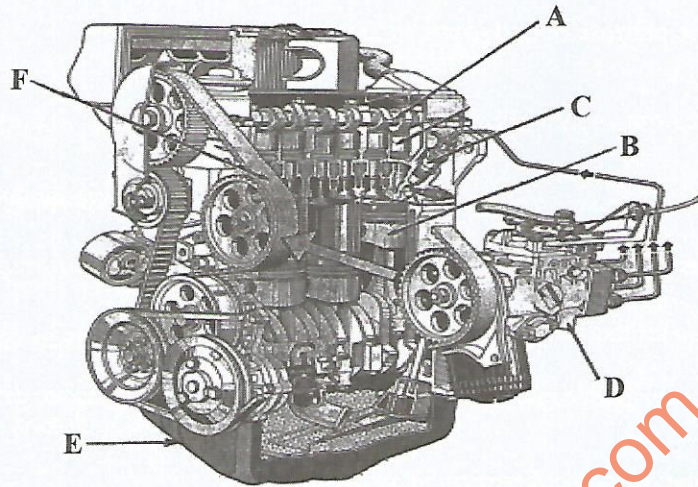

Figure 2
12. Figure 2 shows a diagram of a multicylinder engine.